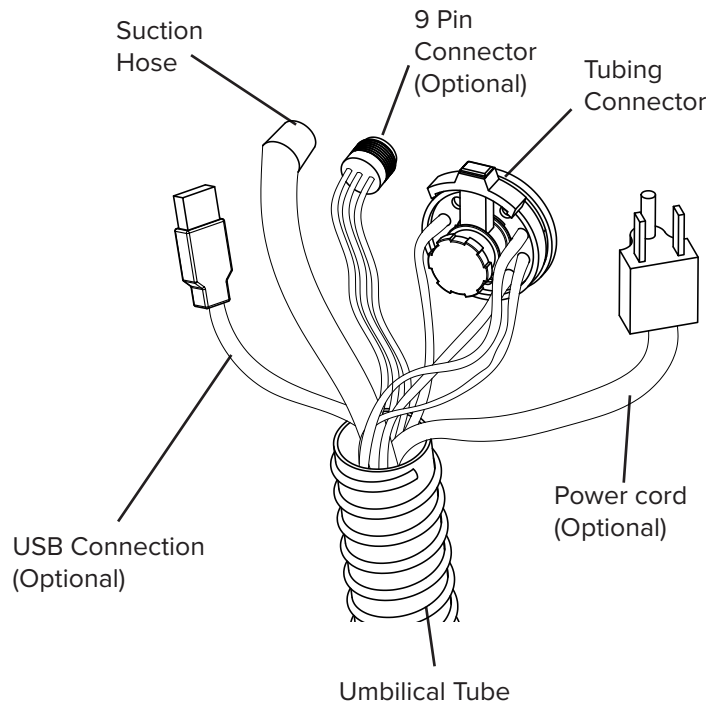

Fig 10.1
2. Refer to Fig 10.1 to become familiar with the tubing and electrical connections (some options shown may not be identical to the configuration of your Workstation).